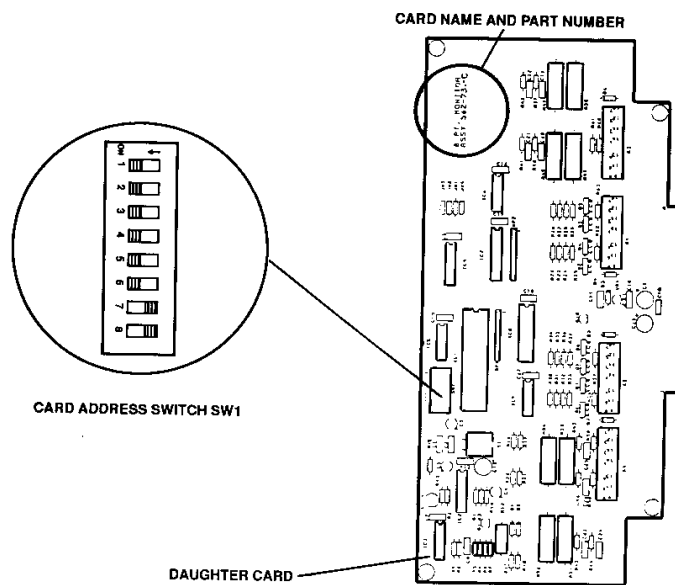

Figure 5 Location of Address Switch SW1 on a Typical 4100 Daughter Card
- The location of Address Switch SW1 on a typical daughter card is shown in Figure 5.